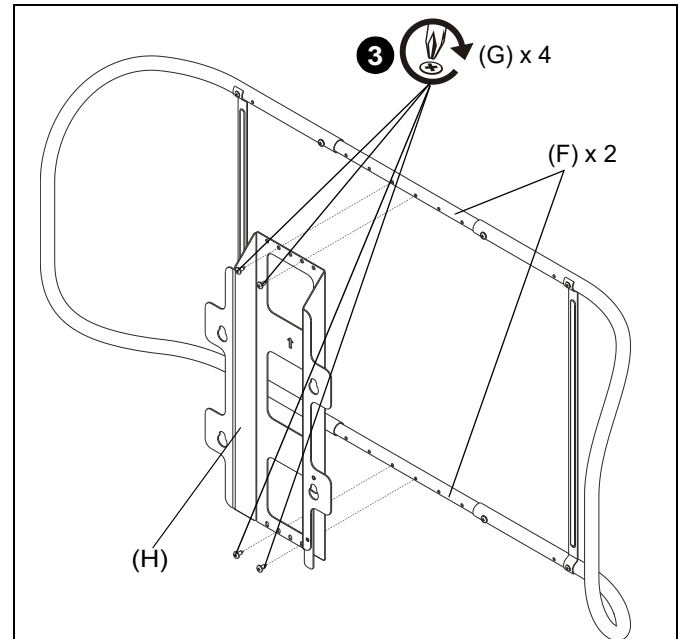

Figure 3
3. Use four #12-24 x 3/8" Phillips tapping screws (G) to secure LCM upright (H) to two center joiner tubes (F). (See Figure 3)